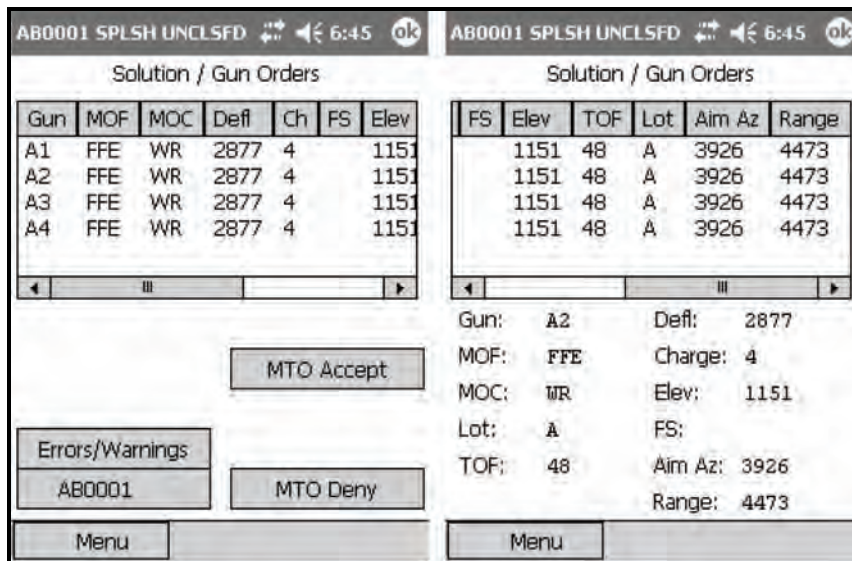

Figure 18-32. Digital Fire Mission: Fire for Effect Solution screen.
- (47) The Solution/Gun Orders screen (Figure 18-32) displays.
NOTE: When the MOF is FFE, the LHMBC displays data for each gun. In Figure 18-32, the sheaf is parallel so all solutions are the same. In all other instances, each gun will have unique data.